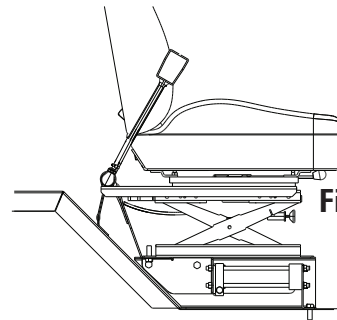

Figure 3
3. Position the unit in place. See FIGURE 3